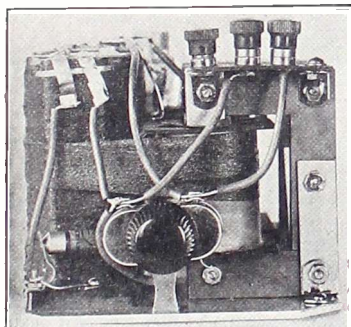

FIG. 7, the front of eliminator.
(1), (2), (3), (4), Diamond; (5), Hand-some; (6), Yes.
IN REGARD to the 1926 Diamond of the Air: (1)—Can the method of winding primaries, as employed in the Browning-Drake coils, i. e., 24 turns of No. 28 double cotton covered wire in a slot 1/8" wide, and inserted under the last few turns of filament end of secondary, be used to advantage in the Diamond? If so, what would be the proper number of turns to place on the forms for the RFT and the 3-circuit tuner? (2)—In the Sept. 26 issue of RADIO WORLD, Fig. 7, a by-pass condenser is placed between condenser, C3 and coil, L3. To what contacts on C3 and L3 are these connections made? Fig. 8 shows the by-pass condenser between the A— and the B+ 45, but not as pictured in Fig. 7. Now which is correct? (3)—Is there any advantage obtainable with this receiver over the receiver described by J. E. Anderson in the Aug. 29 issue of RADIO WORLD?—D.
(1)—According to the latest specifications of the Browning-Drake coils, the primary consists of 20 turns of No. 28 double cotton covered wire wound in a slot 3/16" wide, in the center of the secondary winding on a tubing 4" in diameter. The secondary consists of 50 turns of No. 20 double cotton covered wire. This coil can successfully be used as the RFT in the Diamond. The primary and the secondary of the 3-circuit tuner should consist of the same number of turns wound on the tubing of the same dimensions. The tickler should be wound on a tubing 3/8" in diameter and consist of 36 turns, using No. 26 silk over cotton wire as the conductor. (2)—That condenser, which you see in Fig. 7, which has a photograph, is C4, and is connected as per Fig. 8, even though it seems as if it is connected to those points which you state. It does not go to any point on the variable condenser as it seems to in the photograph. (3)—No. The RF and the Det. side of this set are exactly the same as that employed by Mr. Anderson in his Diamond. The only change is made in the last two stages of AF amplification, wherein instead of one stage of transformer coupled AF amplification being employed two stages of resistance coupled AF amplification are used.